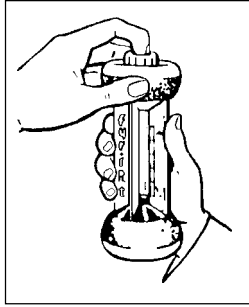

Figure 1
## **1.0 DESCRIPTION (Refer to Figure 1)**
1. Hold upright (Fig. 1) and away from face. Depress Plunger Valve (momentarily) to vent FYRITE, and release.